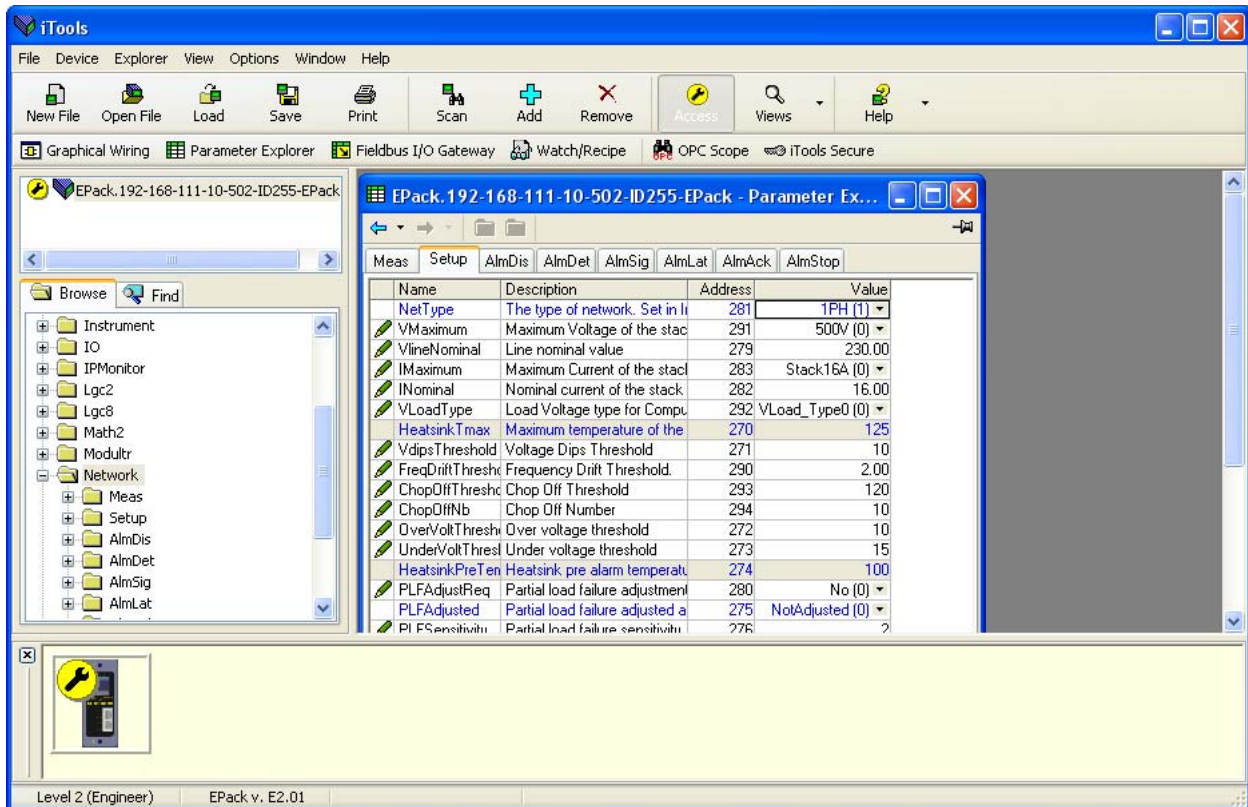

Figure 129 Parameter table example
In each case the function block parameters appear in the iTools window in tabular form, such as the example in figure 129.
- Parameters in blue are non-editable (Read only). In the example above all the parameters are read only. Read/write parameters are in black and have a 'pencil' symbol in the 'read/Write access column at the left edge of the table. A number of such items are shown in figure 129, above.
- Columns. The default explorer window (figure 129) contains the columns 'Name', 'Description', 'Address' and 'Value'. As can be seen from figure 132, above, the columns to be displayed can be selected, to a certain extent, using either the 'Explorer' menu or the context menu. 'Limits' have been enabled for the example above.